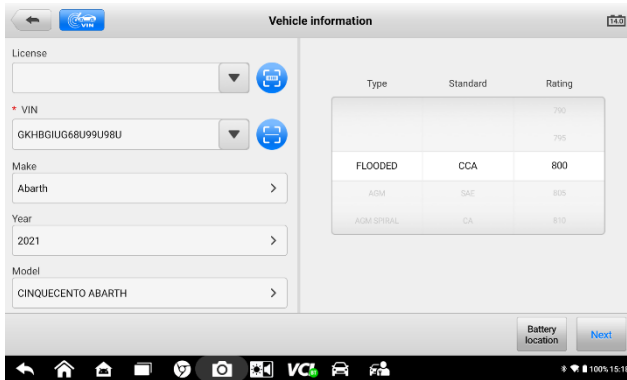

Figure 7-4 Vehicle Information Screen
1. Tap **Next** on the Vehicle Information screen (Figure 7-4). Follow the on-screen instructions. Check the boxes once all required tasks are completed, and tap **Start Testing**.